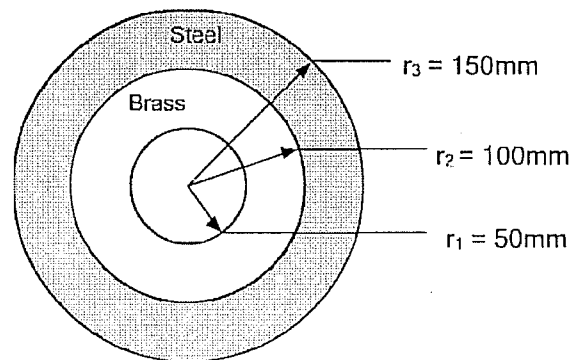

Figure Q5
- Q5 A compound cylinder is made of a brass inner cylinder and a steel outer cylinder as shown in Figure Q5. The interface pressure is 60MN/m2.